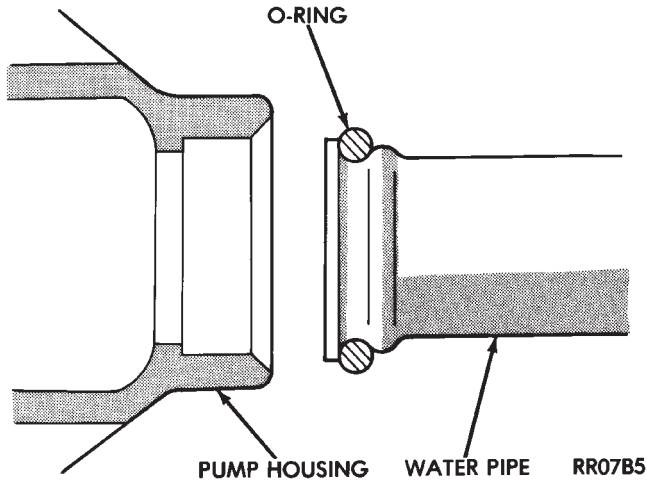

Fig. 6 Water Pipe O-Ring
- (1) Clean all gasket and O-ring surfaces on pump and water pipe inlet tube.
- (2) Install new O-ring on water inlet pipe (Fig. 6). Wet the O-ring with water to facilitate assembly.